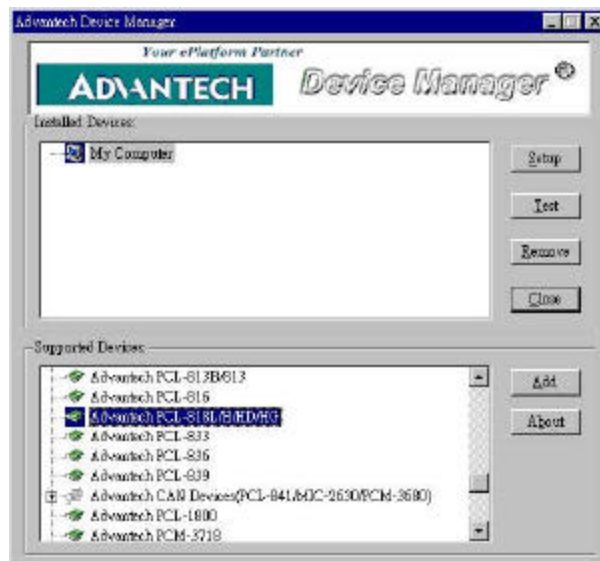

Fig. 2-3 The Device Manager dialog box
Step 2: You can then view the device(s) already installed on your system (if any) on the *Installed Devices* list box. Since you have not installed any device yet, you might see a blank list such as the one below (Fig. 2-3).